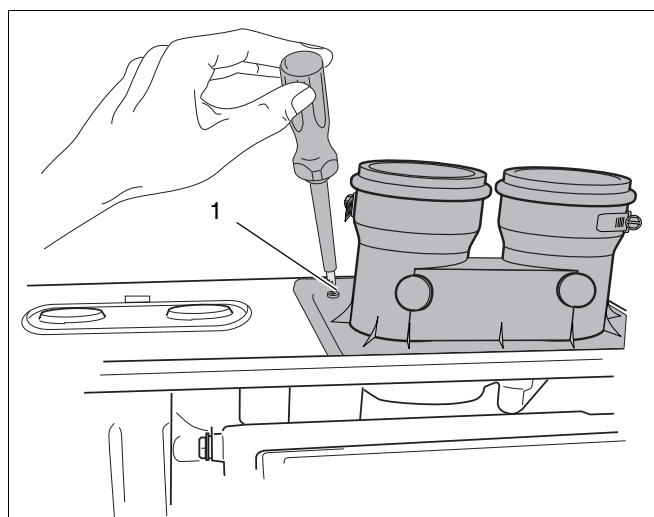

fig. 105 Loosening the fastening screws
- Loosen the 6 fastening screws of the flue gas adapter (see fig. 105, pos. 1).
- Remove the flue gas adapter (see fig. 105, pos. 1) from the top of the boiler.